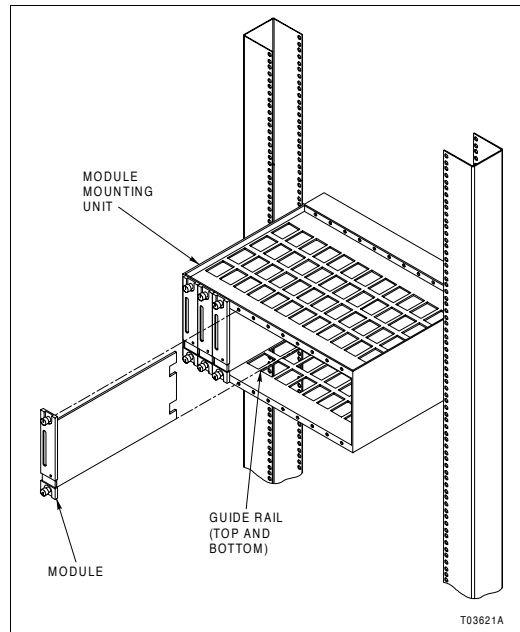

Figure PR3-1. Module Installation
- ☐  2. Align the module with the top and bottom guide rails, then slide the module into the module mounting unit (Fig. PR3-1).